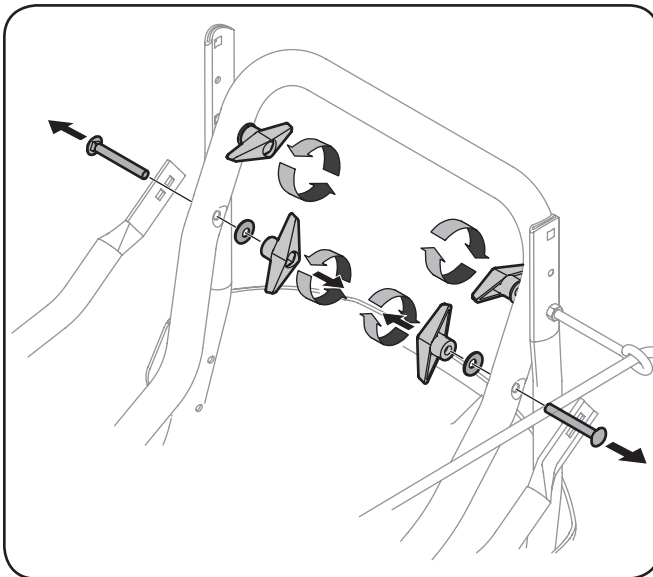

Figure 3-1
2. Remove the lower wing nut, bell washer and carriage bolt from each side of the upper handle, as seen in Figure 3-1.